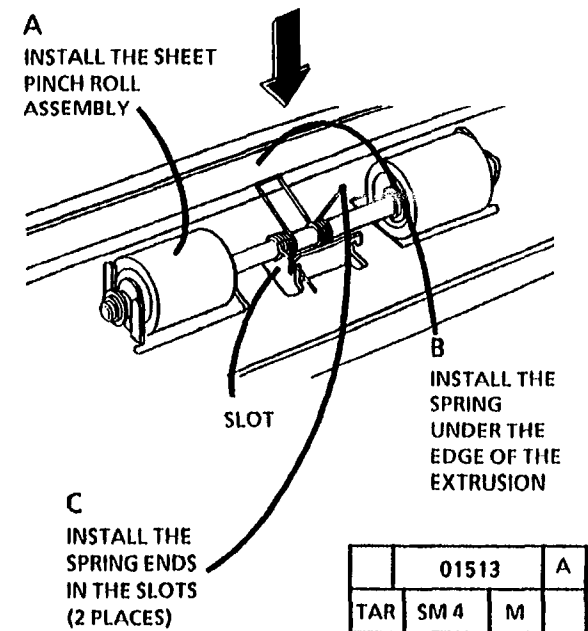

Figure 2. Reinstall the Sheet Pinch Rolls
2. (Figure 2): Reinstall the Sheet Pinch Roll Assembly.